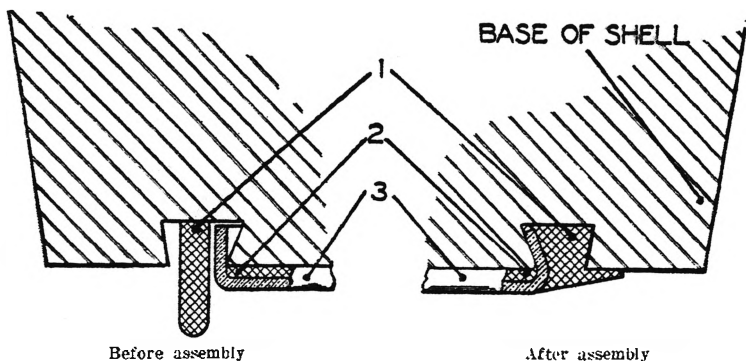

FIG. 2.—Base cover
**7. General remarks.**—*a. Base cover.*—All projectiles containing high explosive are fitted with a base cover which is designed to prevent the gas from the propelling charge coming in contact with the high-explosive charge of the shell through possible defects in the base. The standard base cover for 155-mm. high-explosive projectiles is shown in Figure 2. It consists of a copper cup covering a lead disk, the copper cup being held in a groove in the base of the